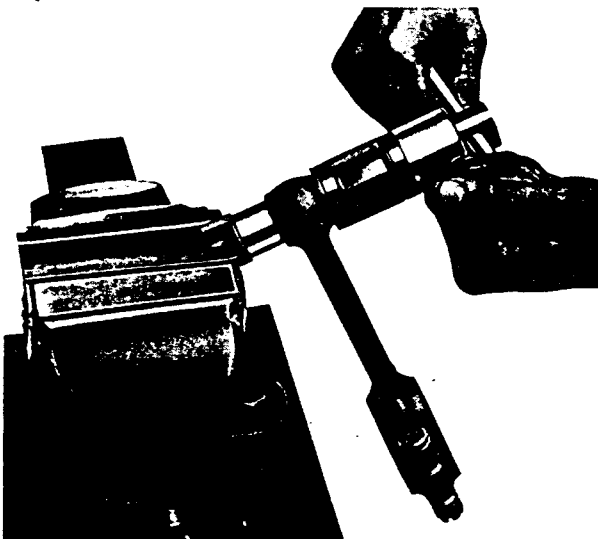

FIG. 141.
1. Using Service Tool 20S FT.6201, with adaptors 9 and 10, mounted in a vice as shown in Fig. 141, remove old bush by pressing the replacement into position. The oil hole in the new bush must first be carefully aligned with the drilling feed in the shank of the connecting rod.